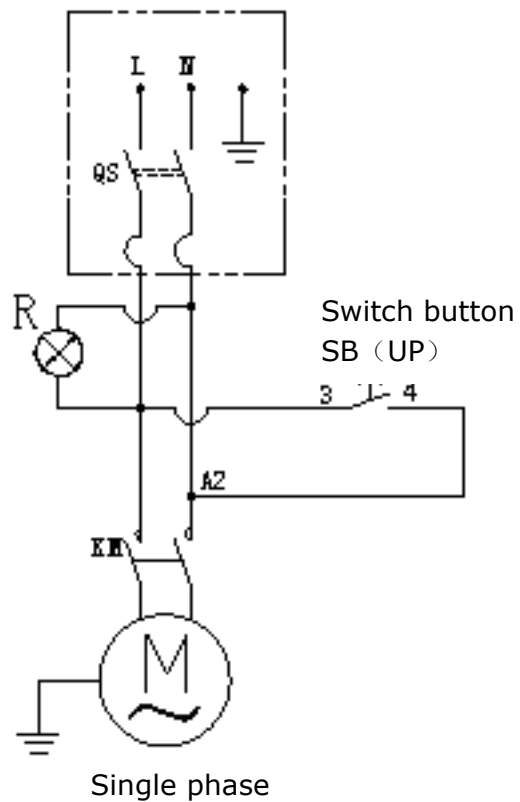

Fig.8
1. Connect the wire according to below diagram. (Fig.8)